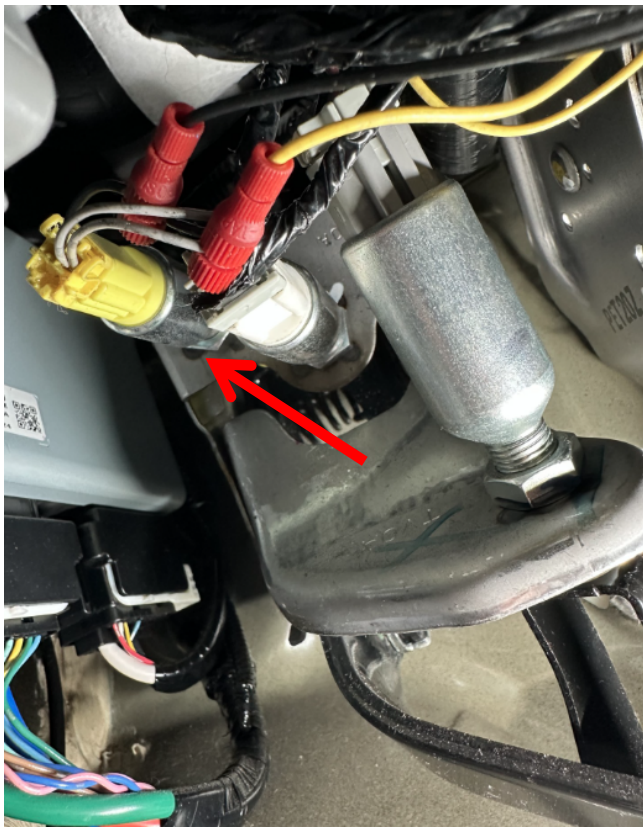

Figure 3 (Clutch Interlock Sensor)
2. Connect AUTO-BLiP black wire to the **black** wire on the clutch safety interlock sensor (**Figure 3**).
3. Connect AUTO-BLiP yellow wire to the **grey** wire on the clutch safety interlock sensor (**Figure 3**).